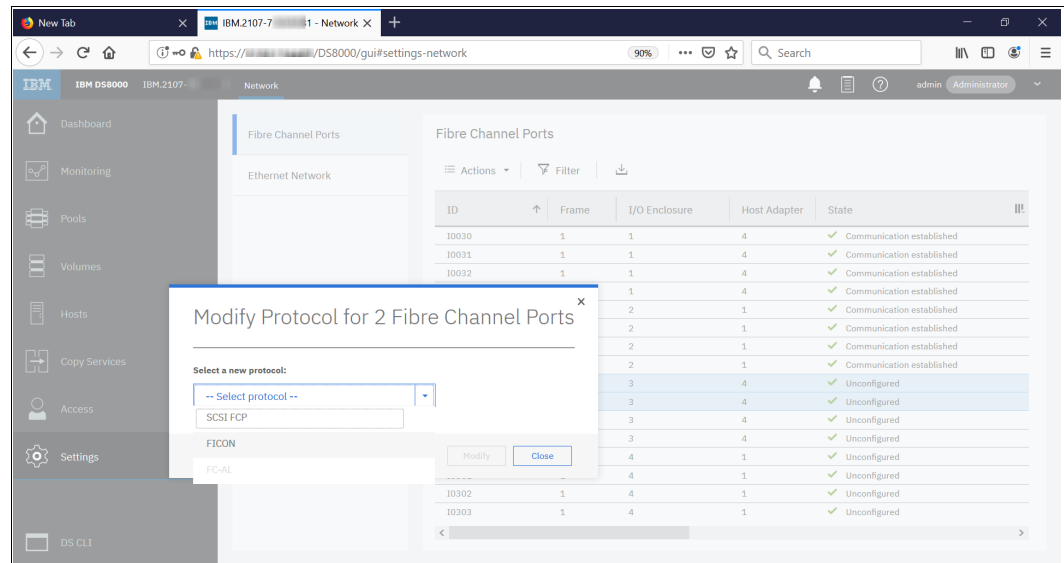

Figure 9-9 Configuring the Fibre Channel port topology
- Another option is to click **Settings** → **Network** → **Fibre Channel Ports**, select a specific port from the list, and select **Actions** to set the ports, as shown in Figure 9-9.